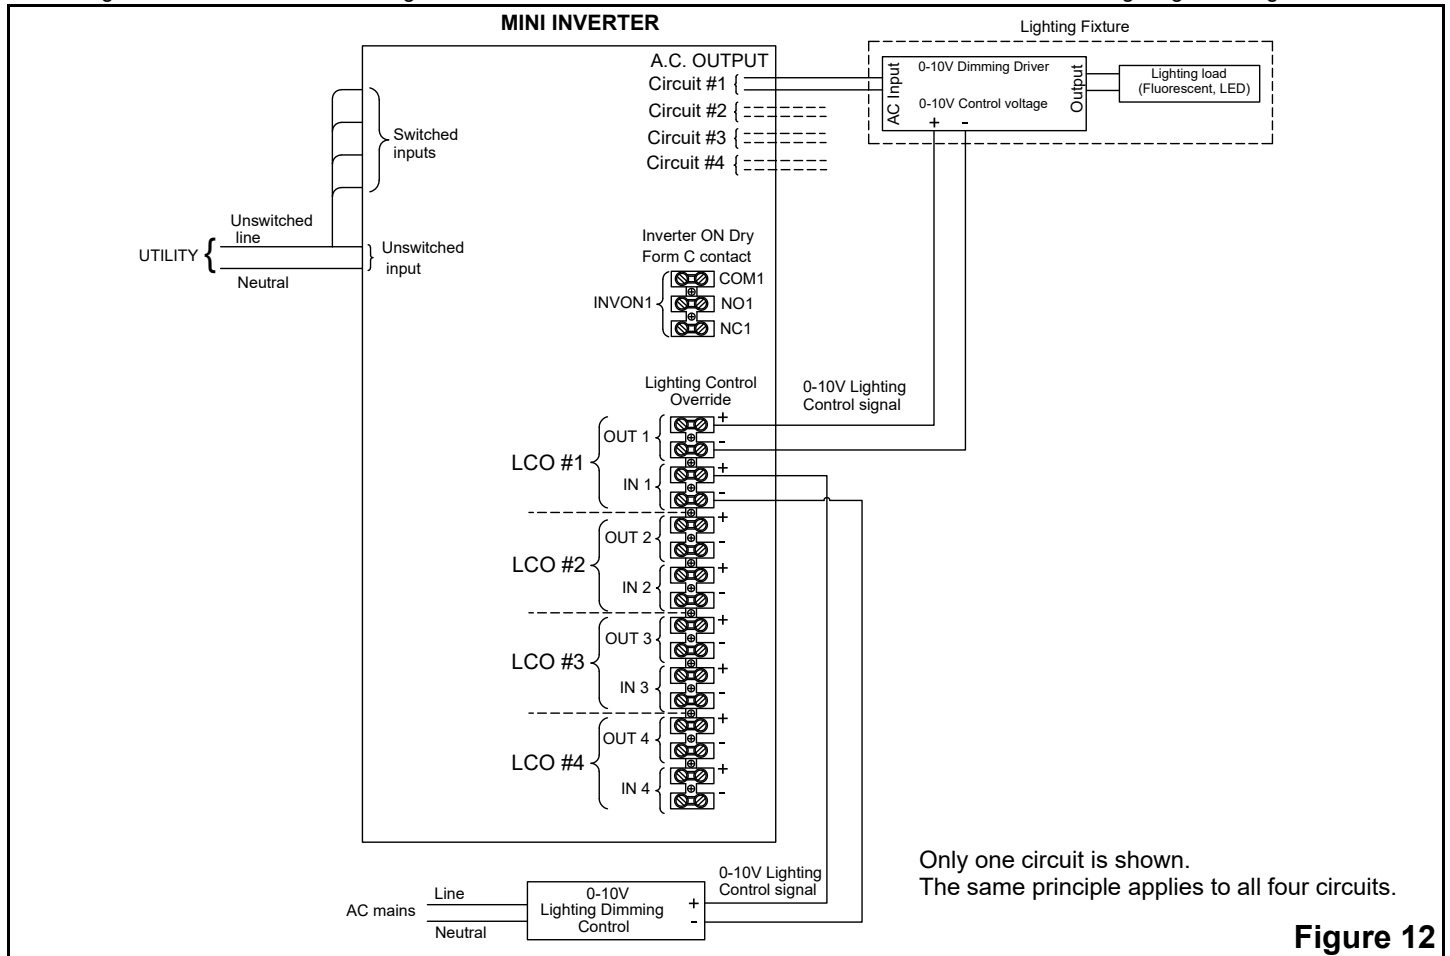

Figure 12
4. Connect the Lighting Control signal cables from the lighting fixtures to the corresponding terminal blocks identified by OUT1, OUT2, OUT3 or OUT4 in the Mini Inverter. Wiring is polarity sensitive. Observe the polarity of the cables (*refer to figure 12*). Purple is positive and grey is negative.
The INVERTER-ON Dry Contact is identified as “INVON1” and its position is illustrated in **Figure 12 and 13**.